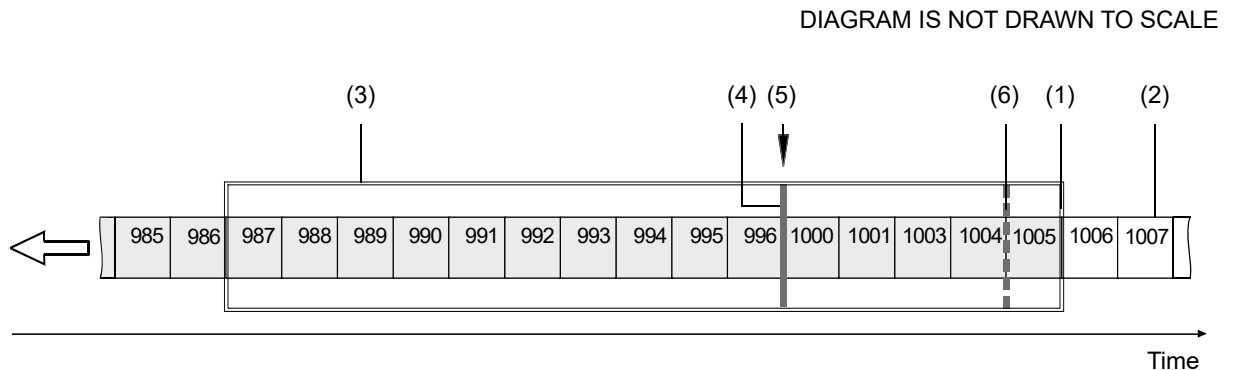

Fig. 14: Example of a Receive Window with Resend Request Threshold & Resend Request Batching Threshold
The threshold resend request mechanism is illustrated in Figure 14 where the following assumptions are made:
- (1) Front end of the receive window. Missing packets are detected here.
- (2) Stream of packets. Gray indicates that the status was checked as the packet entered the receive window. White indicates that the status has not yet been checked.
- (3) Receive window of the performance driver.
- (4) Threshold for sending resend requests (resend request threshold).
- (5) A separate resend request is sent for each packets 997, 998, and 999.
- (6) Threshold for batching resend requests for consecutive missing packets (resend request batching threshold). Only one resend request will be sent for the consecutive missing packets.
**Resend Request Threshold** - This parameter determines the location of the resend request threshold within the receive window as shown in Figure 14. The parameter value is in per cent of the width of the receive window. In Figure 14 the resend request threshold is set at 33.33% of the width of the receive window.
A stream of packets advances packet by packet beyond the resend request threshold (i.e. to the left of the resend request threshold in Figure 14). As soon as the position where a packet is missing advances beyond the resend request threshold, a resend request is sent for the missing packet.
In the example shown in Figure 14, packets 987 to 1005 are within the receive window and packets 997 to 999 and 1002 were detected as missing. In the situation shown, a resend request is sent to the camera for each of the missing consecutive packets 997 to 999. The resend requests are sent after packet 996 - the last packet of the intact sequence of packets - has advanced beyond the resend request threshold and before packet 1000 - the next packet in the stream of packets - can advance beyond the resend request threshold. Similarly, a resend request will be sent for missing packet 1002 after packet 1001 has advanced beyond the resend request threshold and before packet 1003 can advance beyond the resend request threshold.
**Resend Request Batching** - This parameter determines the location of the resend request batching threshold in the receive window (Figure 14). The parameter value is in per cent of a span that starts with the resend request threshold and ends with the front end of the receive window. The maximum allowed parameter value is 100. In Figure 14 the resend request batching threshold is set at 80% of the span.
If the Resend Request Batching parameter is set to 0, no batching will occur and a resend request will be sent for each single missing packet. For other settings, consider an example: Suppose the Resend Request Batching parameter is set to 80 referring to a span between the resend request threshold and the front end of the receive window that can hold five packets (Figure 14). In this case 4 packets ( $5 \times 80\%$ ) will fit into the span between the resend request threshold and the resend request batching threshold. Accordingly, the maximum number of consecutive missing packets that can be batched is  $5 (4 + 1)$ .